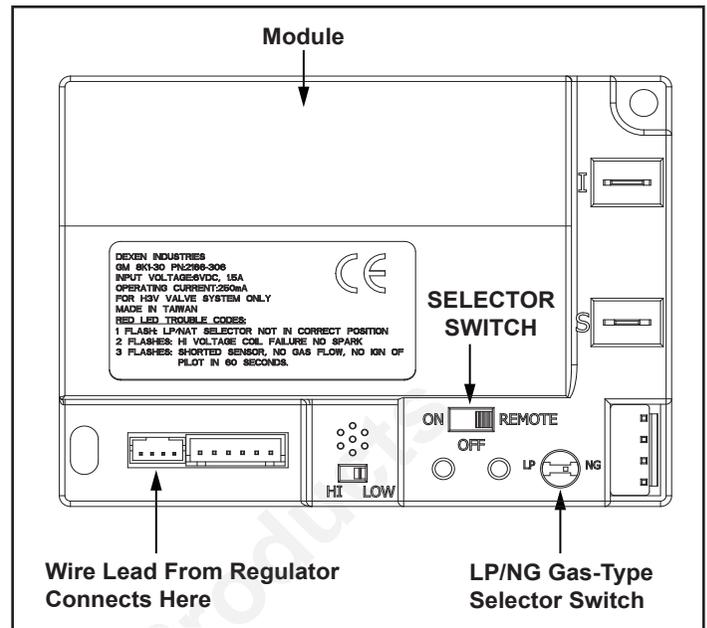

Figure 2.1 - Control Module
1. The control module has an ON/OFF/REMOTE selector switch that must be set. See Figure 2.1.